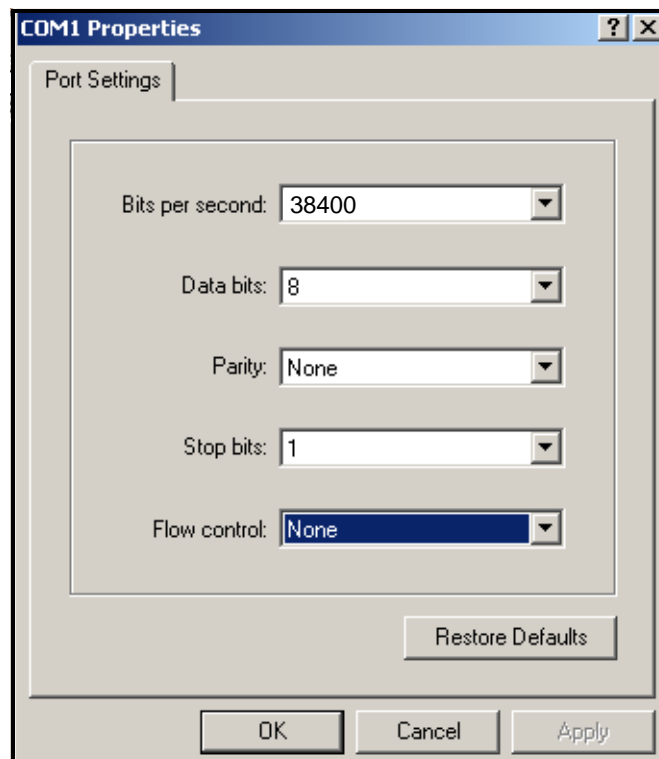

Figure 2-7: Communication Port Properties Window
4. The *Communication Port Properties* window appears. Enter the settings shown in Figure 2-7 below. Click OK.